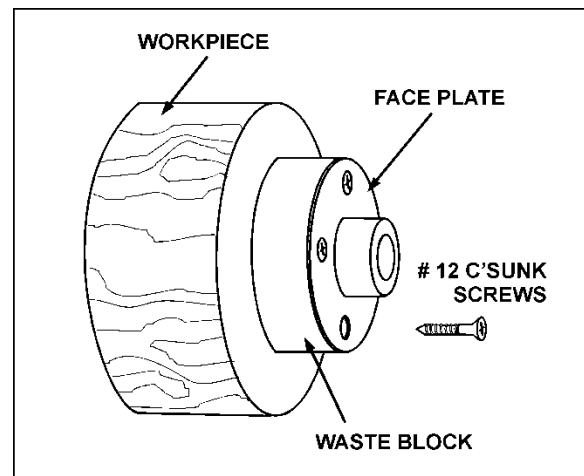

Figure 21
Use of a faceplate is the most common method for holding a block of wood for turning bowls, and plates, see Figure 21.
3. Using the faceplate as a template, mark the location of the mounting holes, and drill pilot holes of the appropriate size. If the mounting screws on the faceplate interfere with the workpiece, a waste block can be mounted to the faceplate and then the waste block mounted to the workpiece by gluing or screwing, see Figure 21.